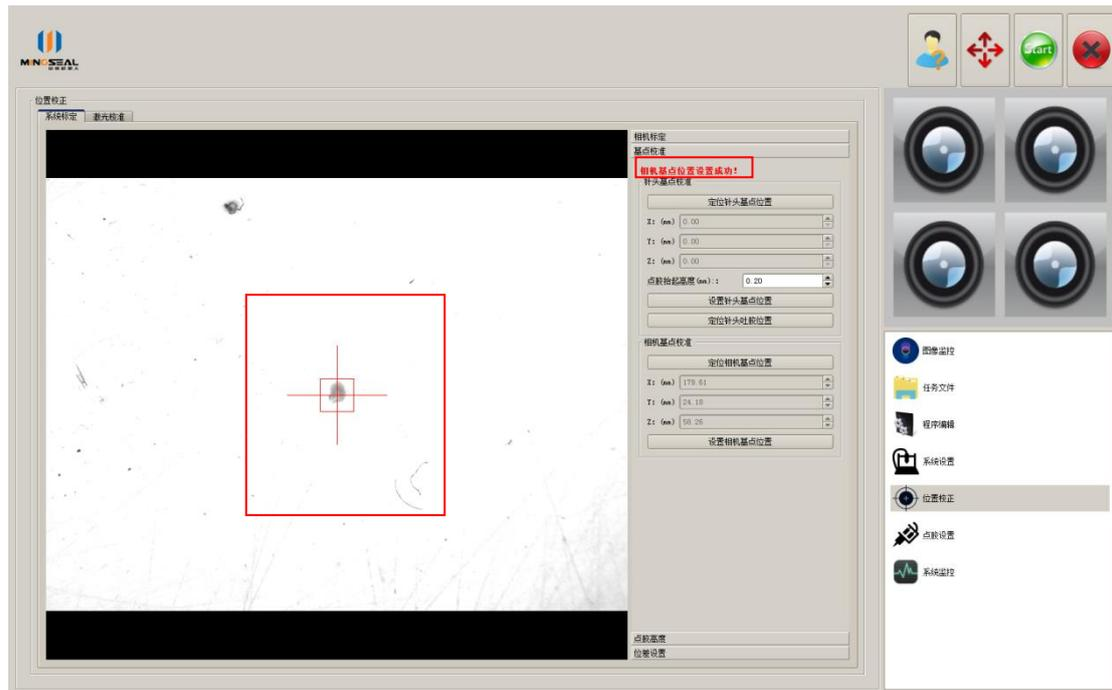

Figure 22 Camera basic position setting
3) Click 'camera basic point positioning'; if the dispensing glue center is not in alignment with the cross center of the image field in step 1, then move the platform to make the two centers into coincidence; click 'set camera basic position' button, recording the coordinates, and set it to be the camera basic position, shown in figure 22;